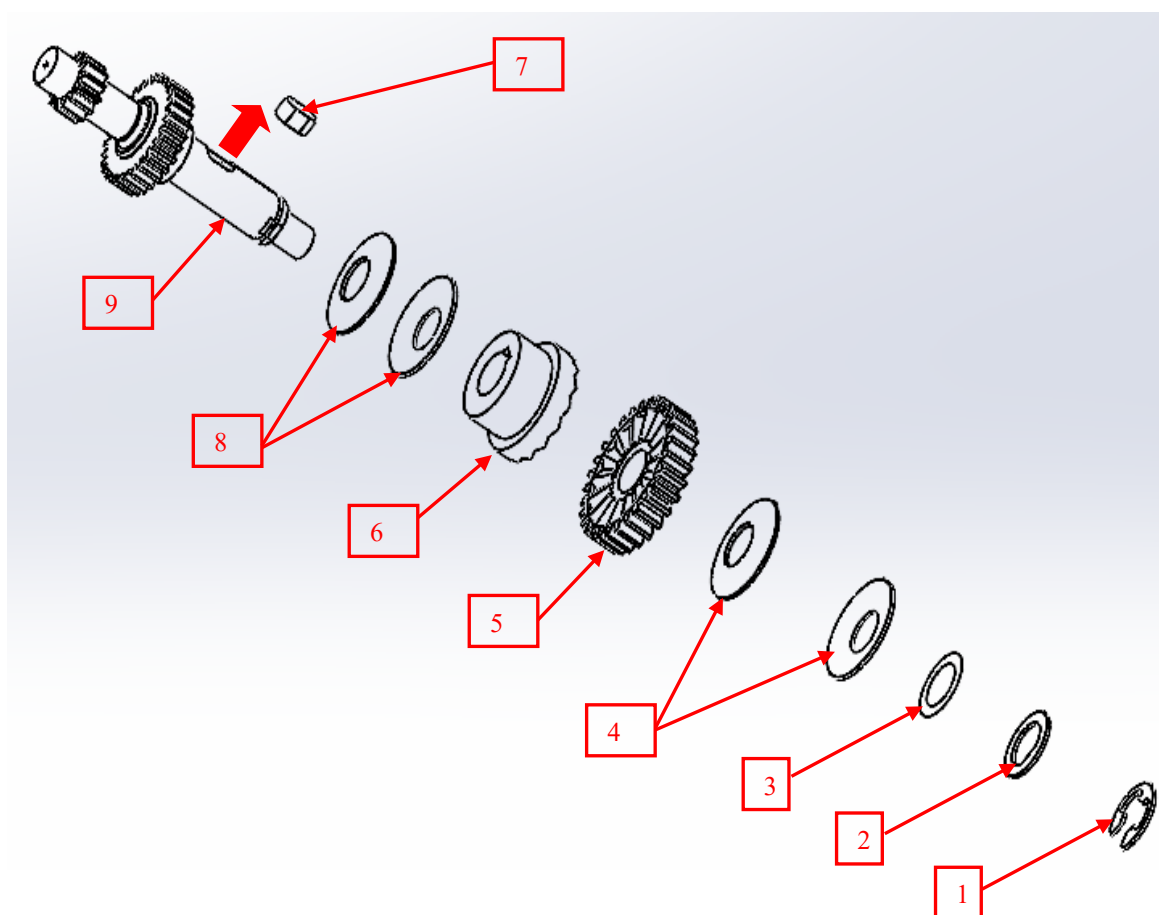

Figure 1.17
1.6.3 Proceed with the disassembly of the clutch following the various steps and as shown in figure 1.17:
- a) Remove the seeger ring (COT91056) – figure 1.17 – position 1;
- b) Remove the thrust washer (COT91057) – figure 1.17 – position 2;
- c) Remove the adjustment disc (COT90057) – figure 1.17 – position 3;
- d) Remove the two cup springs (COT90573) – figure 1.17 – position 4;
- e) Remove the toothed wheel (COT90055) – figure 1.17 – position 5;
- f) Remove the semi-coupling (COT90052) – figure 1.17 – position 6;
- g) Remove the keyway (COT90051) – figure 1.17 – position 7;
- h) Remove the two cup springs (COT90573) – figure 1.17 – position 8;
- i) The countershaft (COT90048) remains – figure 1.17 – position 9.